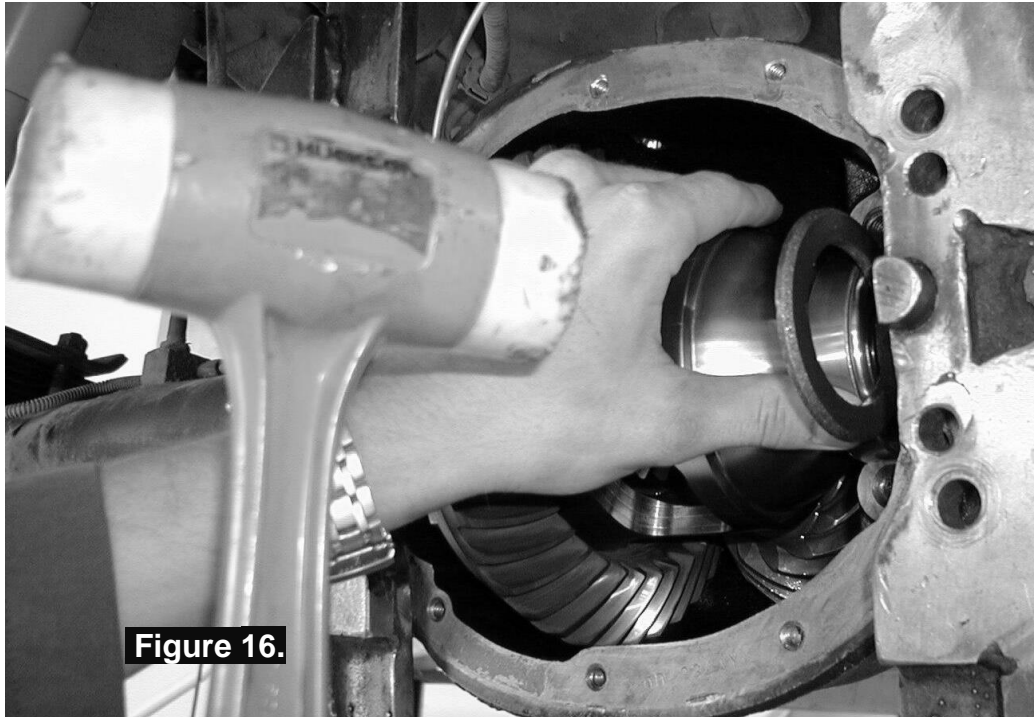

Figure 16.
- While holding the *Air Locker* into the axle housing, lightly tap the original right-hand master shim into place on the right-hand side between the *Air Locker* master shim and the bearing seat of the axle assembly. (Refer to Figure 16.)